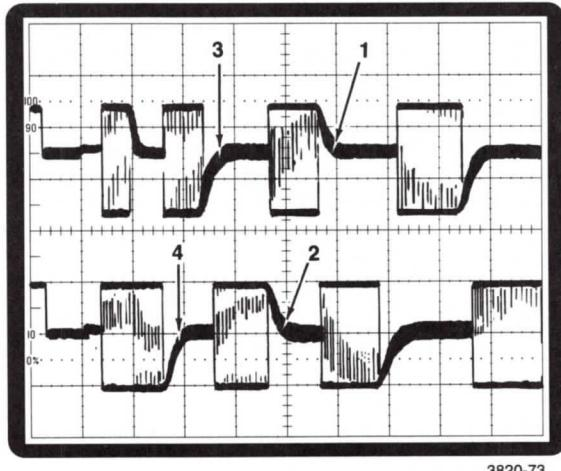

Figure 4-4. Charge Pump Waveform.
- g. ADJUST — R605 (Pump Up/Down) and R704 (Pump Down)for the best waveform at TP502 and TP 525 (externally triggered) while obtaining an optimum charge pump pattern on the display. See Figures 4-4 and 4-5.